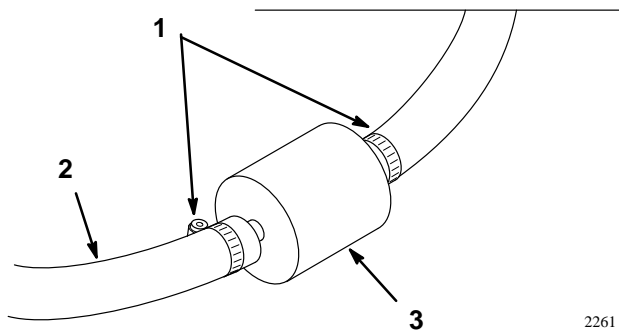

Figure 24
3. Loosen hose clamps and slide them up the hose, away from the filter (Fig. 24).
4. Remove the filter from the fuel lines (Fig. 24).